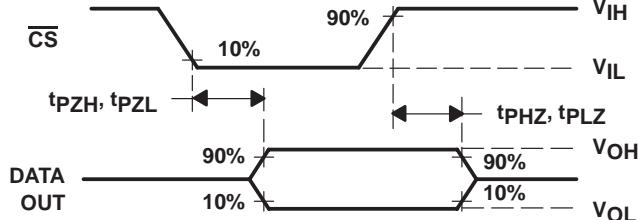

Figure 8. DATA OUT to Hi-Z Voltage Waveforms
10. I/O CLK period = 1/(I/O CLK frequency) (see Figure 8).